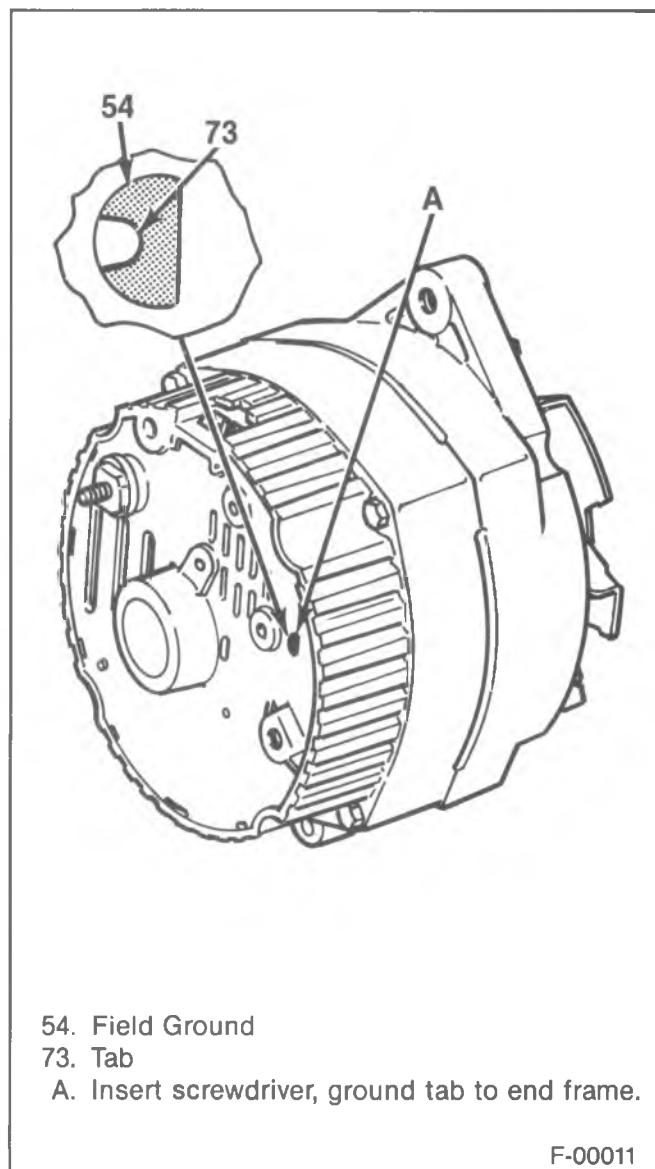

Figure 15—Generator Field Ground Tab
9. If the ampere output is not within 10 percent of the rated output in amperes, see if the test hole is accessible (figure 15). If it is not accessible go to step 14.